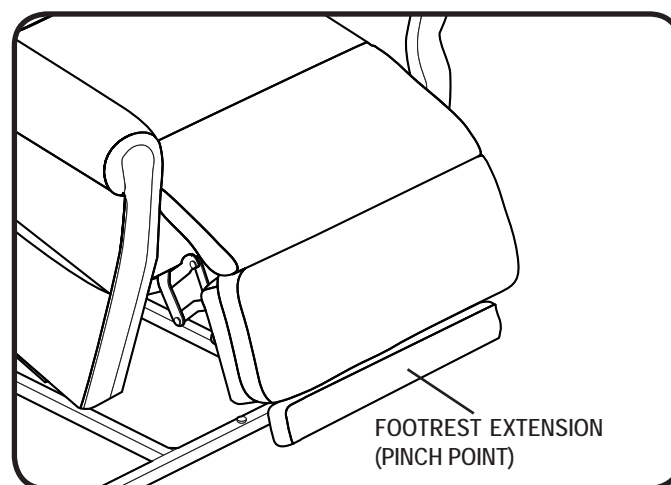

Figure 3.2 Footrest Extension
Footrest Extension: Provides 8 cm (2 in.) of extension to the footrest, increasing the leg support for taller individuals when the recliner is in the recline position (**Fig. 3.2**). This feature is optional for certain power lift recliner models.
2. Adjust the leg levelers to stabilise the power lift recliner (**Fig. 3.2**).